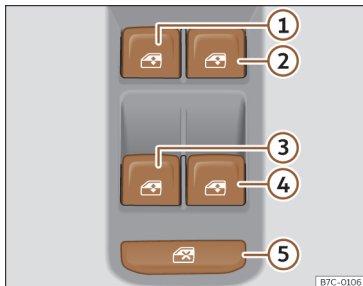

Fig. 89 Detail of the driver's door: window controls.
The safety control >>> **Fig. 89** ⑤ on the driver's door can be used to disable the electric window buttons on the rear doors.